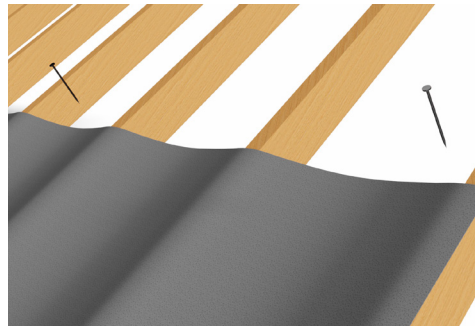

fig 2: Drape and nailing
3. Where unsupported, the Danelaw LR120T should be installed with a drape over timber rafters or counter battens of not less than 10mm and not greater than 15mm. It should be temporarily secured with the minimum number of clout nails above the upper overlap line at maximum 1200mm horizontal centres (fig. 2). Minimise any gaps in the horizontal laps resulting from different tautness in the underlay courses. This is important to facilitate the effective sealing of the horizontal overlap using the integral tape. The tile or slate battens should be installed at the appropriate gauge and fixed to provide the main anchorage point for the underlay.